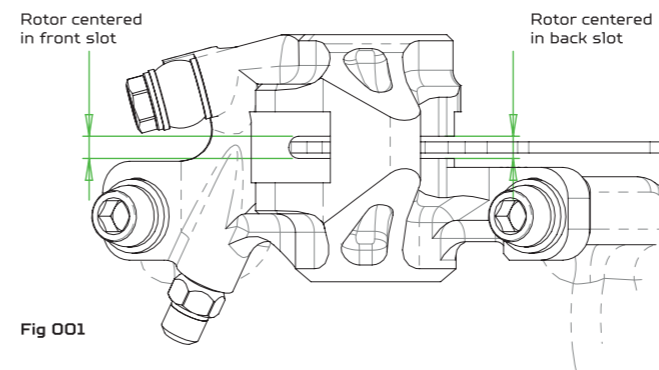

Fig 001
**004** At both front and rear of the caliper, adjust its position so it is central over the rotor (see arrows on Fig 001) then tighten the two M6 bolts using a 5mm hex. Recommended tightening torque: **8-9 N.m**.